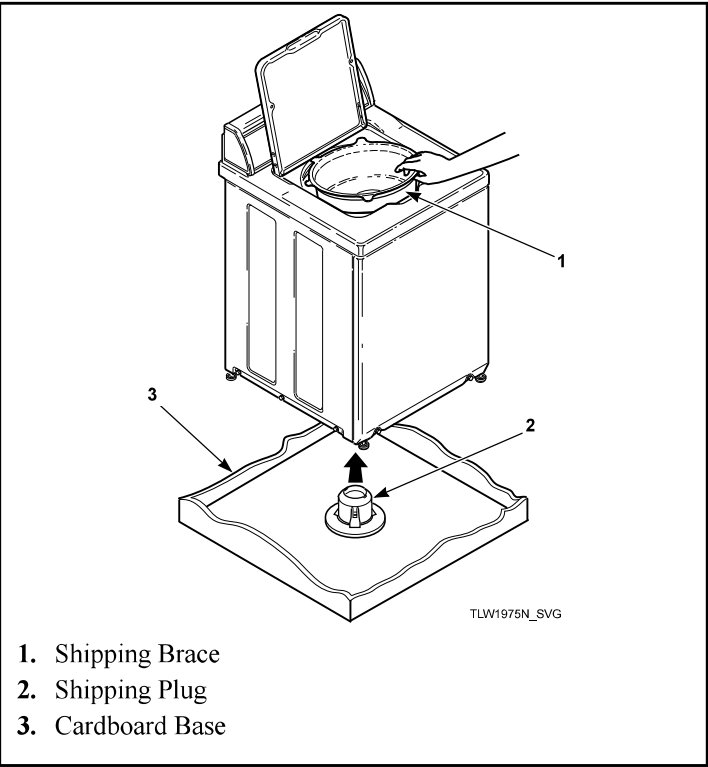

Figure 2
2. The shipping plug will be released from the base of the washer when removing the cardboard base from the washer. Refer to *Figure 2*.